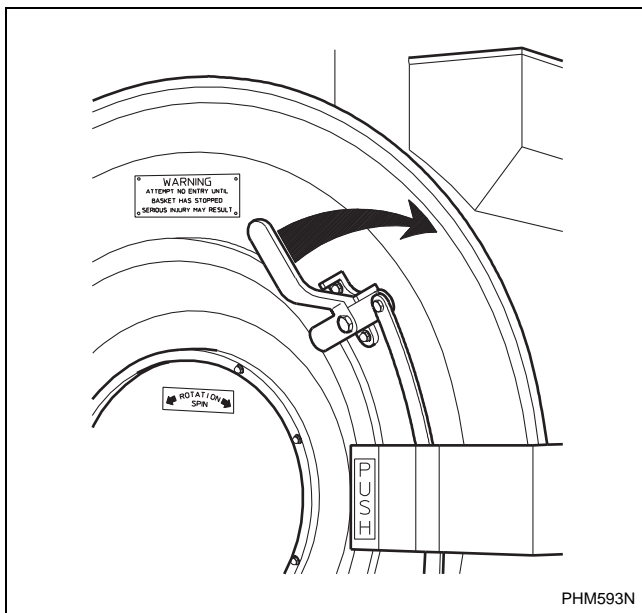

Figure 29
3. Use right hand to turn door handle clockwise and swing the door left to open. Refer to *Figure 29*.